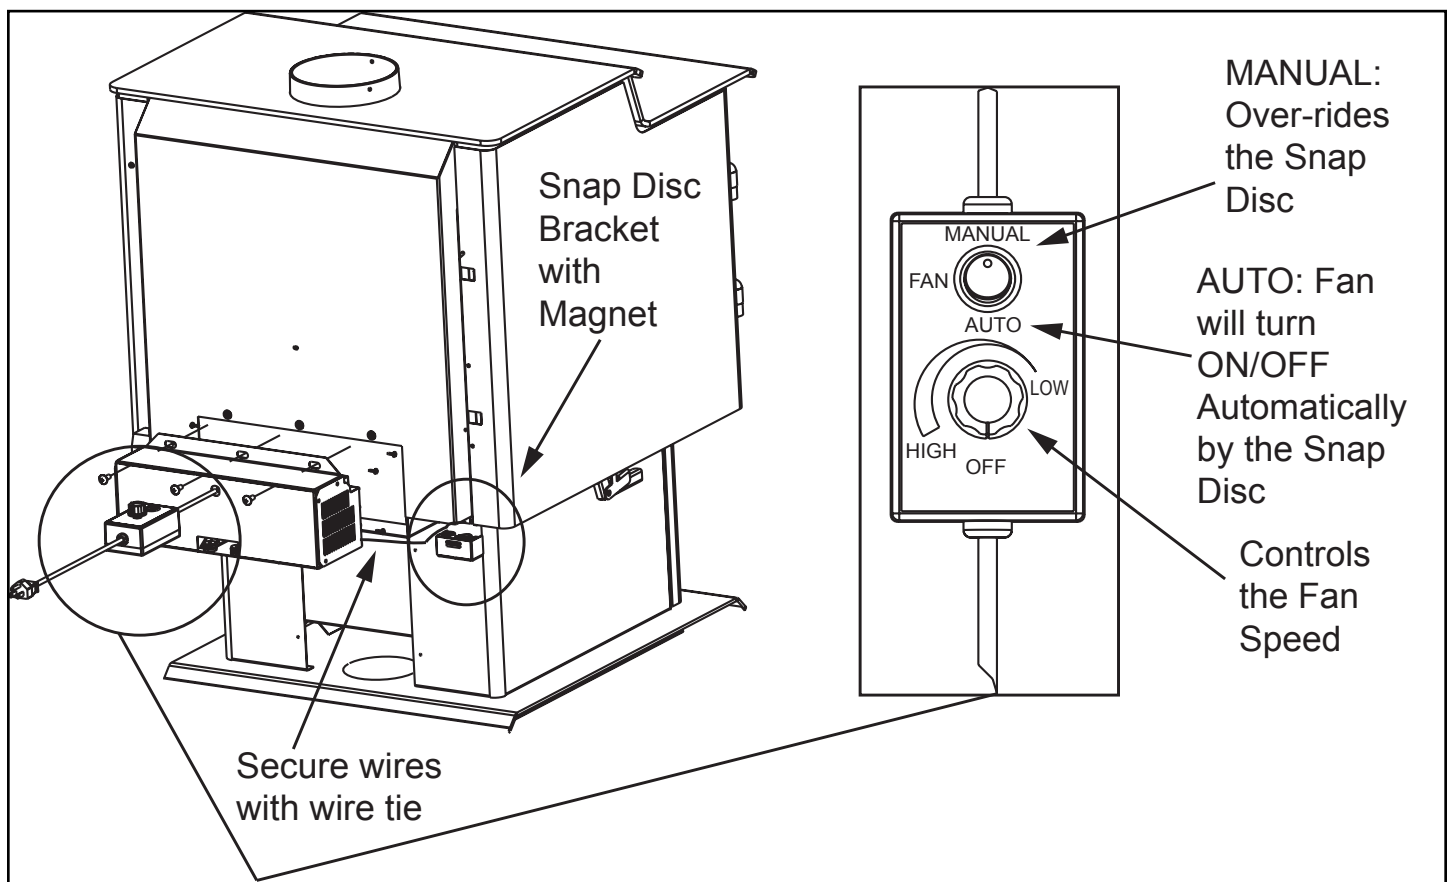

Figure 23.1
2. Align holes in mounting flange of blower with bolt holes in appliance. Blower should be positioned at bottom of rear outer skin as shown in **Figure 23.1**